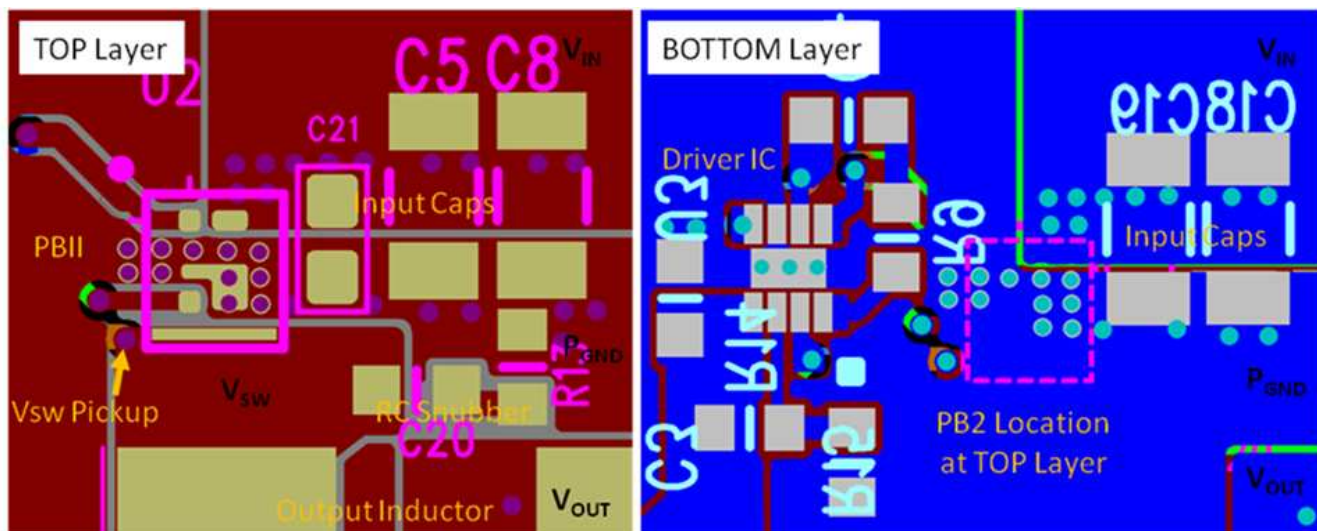

Figure 29. Recommended PCB Layout (Top Down View)
- The placement of the input capacitors relative to VIN and PGND pins of CSD87381P device should have the highest priority during the component placement routine. It is critical to minimize these node lengths. As such, ceramic input capacitors need to be placed as close as possible to the VIN and PGND pins (see Figure 29). The example in Figure 29 uses 1 x 10 nF 0402 25 V and 4 x 10 μ F 1206 25 V ceramic capacitors (TDK part number C3216X5R1C106KT or equivalent). Notice there are ceramic capacitors on both sides of the board with an appropriate amount of vias interconnecting both layers. In terms of priority of placement next to the Power Stage C21, C5, C8, C19, and C18 should follow in order.
- The switching node of the output inductor should be placed relatively close to the Power Block II CSD87381P VSW pins. Minimizing the VSW node length between these two components will reduce the PCB conduction losses and actually reduce the switching noise level. See Figure 29.⁽¹⁾
(1) Keong W. Kam, David Pommerenke, "EMI Analysis Methods for Synchronous Buck Converter EMI Root Cause Analysis", University of Missouri – Rolla
- Use the smallest drill size allowed in your design. The example in Figure 29 uses vias with a 10 mil drill hole and a 16 mil capture pad.